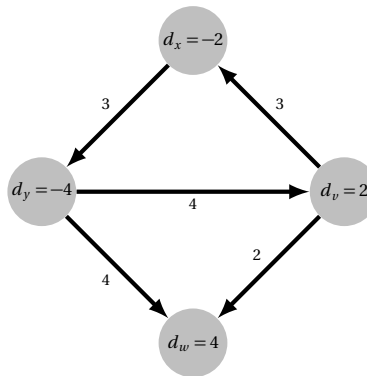
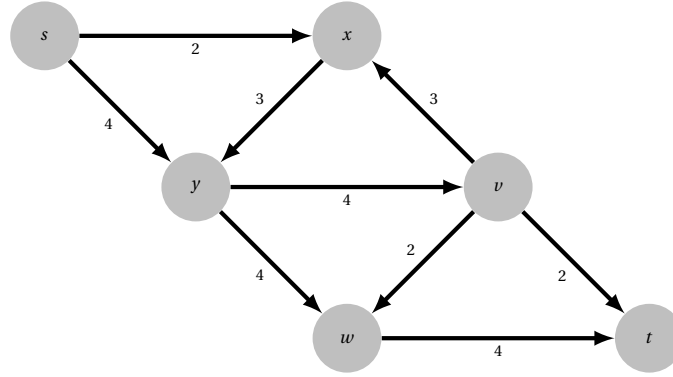

Figure 1: An instance of the circulation with demands problem. The demand is indicated in each vertex, and the capacity in each edge.
Figure 2: The supergraph  $G'$  obtained from  $G$  presented in Figure 1 so that a max-flow problem can be solved.
**Problem 1. (Preparation)** Consider the following circulation with demands problem presented in Figure 1. Does it have a feasible solution?
Figure 2 presents the supergraph  $G'$  obtained from  $G$  presented in Figure 1.